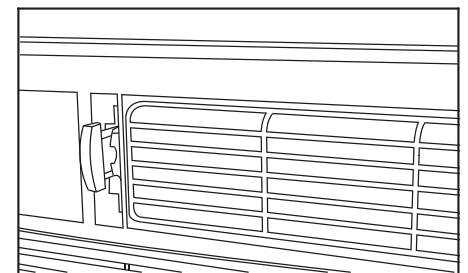

Fig. 3 (VENT OPEN)
3. Exchange air from the room - Vent Open (see Fig. 3)